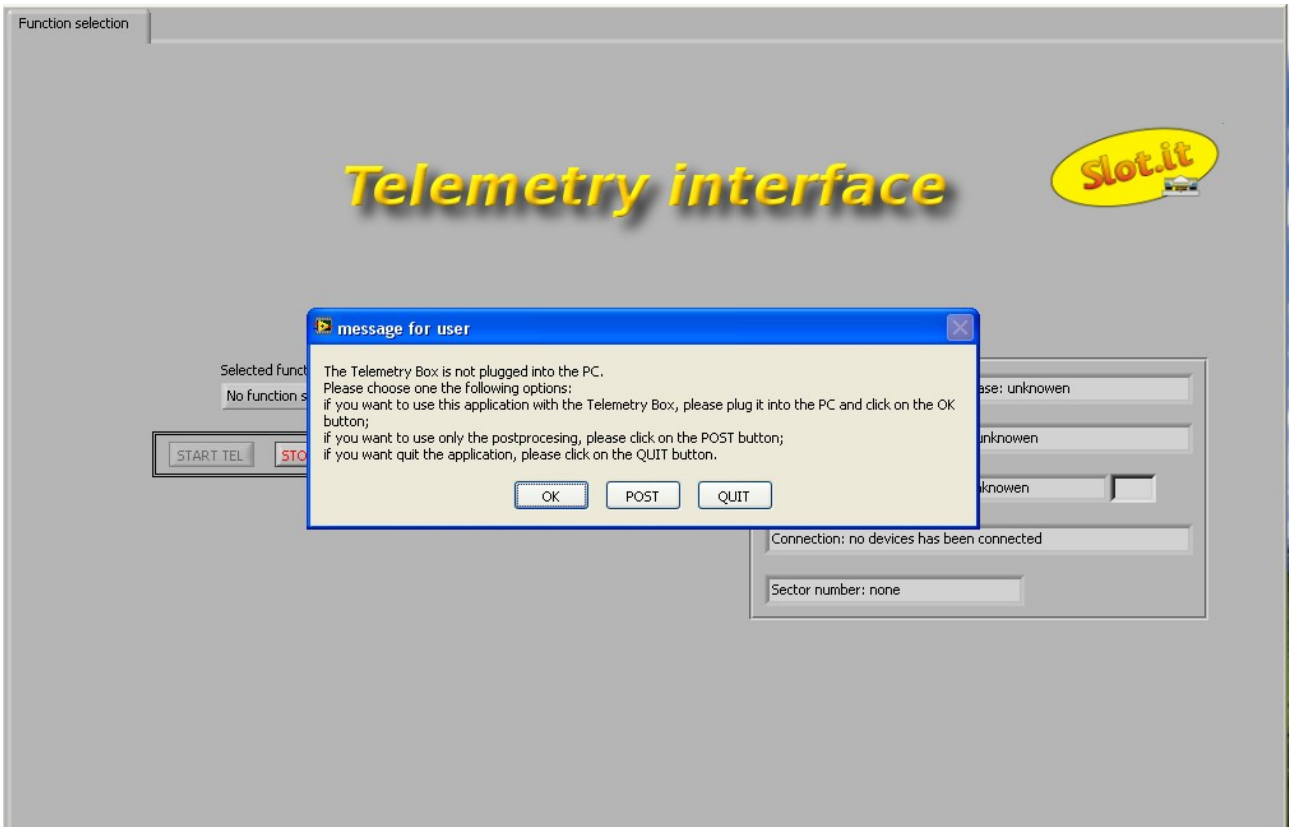
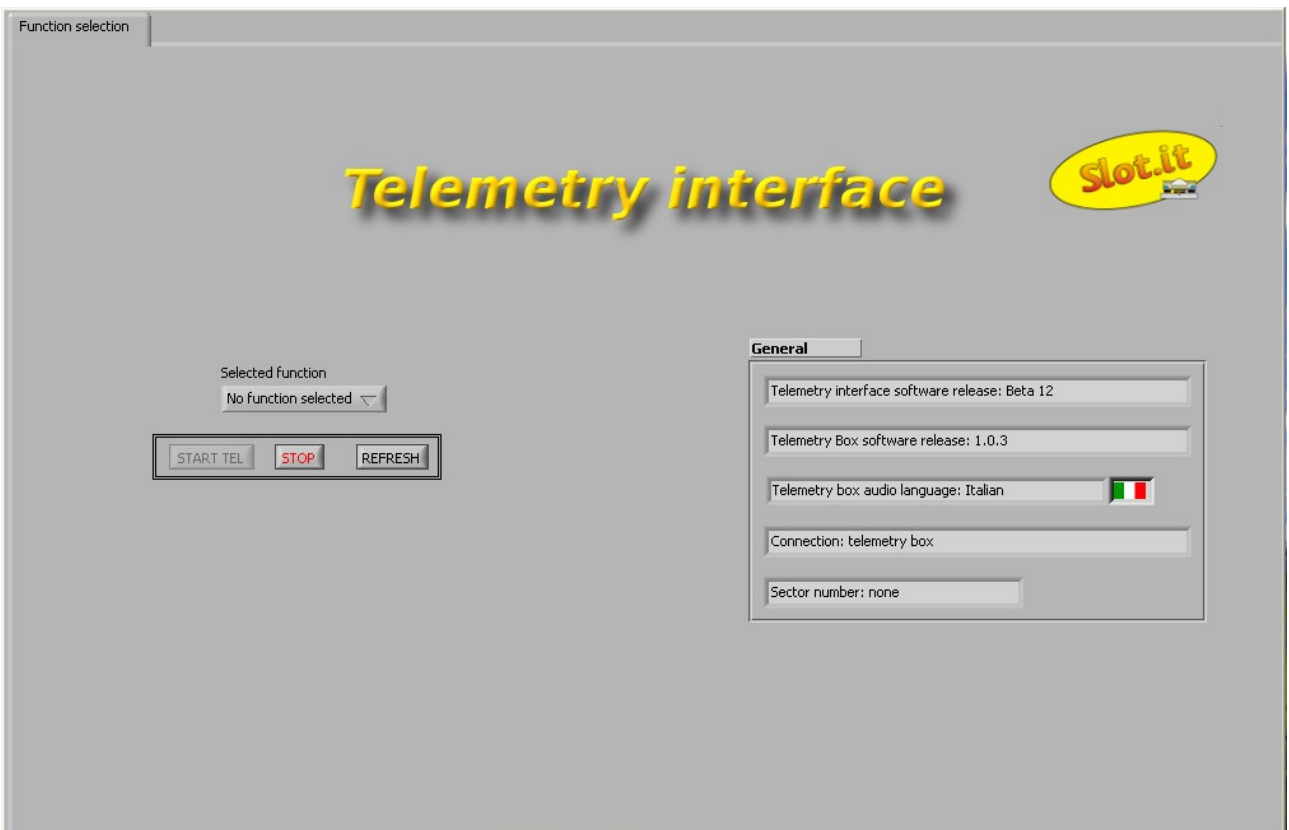

Figure 37: starting windows Telemetry Box PC Interface with disconnected Telemetry Box.
Figure 38: starting windows Telemetry Box PC Interface with connected Telemetry Box.
In order to run the application *Telemetry Box PC Interface* you only have to position the mouse's indicator on the icon of the application itself and make a double click with the left key. The *Telemetry Box PC Interface* can present itself in two different ways according that the *Telemetry Box* is connected or not to the PC. If the *Telemetry Box* is not connected to the PC, the application presents itself as shown in figure 37, otherwise as shown in figure 38.
In case of disconnected *Telemetry Box* (figure 37), the user can carry out one of the following operations, as summarized by the message on the monitor:
- connect the *Telemetry Box* to the PC by means of a USB cable for printer (type AB) and push "OK". This means that the situation is now the one described in figure 38: use of the *Telemetry Box PC Interface* application to communicate with the *Telemetry Box* (see paragraph 16.2.1 );
In case of connected *Telemetry Box* (figure 38), it can be observed that on the right side of the page there is a series of data, the result of a first data exchange between the *Telemetry Box PC Interface* application and the *Telemetry Box*. These are:
- "*no box*": no *Telemetry Box* is connected to the PC (the situation is the one of figure 37);
On the left side of the same page (figure 38) is a drop-down menu, "*Selected function*", in which all the functions that can be carried out are listed, but the enabled ones are only the ones that can be carried out on the basis of what the *Telemetry Box* is connected to in this moment. For example: if the *Telemetry Box* is connected to the PC only, the "*telemetry*" function is not enabled since it requires that the *Telemetry Box* is connected to a SCP controller, too.
- **STOP TELEMETRY**: by pushing this button, the user is asked if he wants to move on directly to the *postprocessing* function. If yes, the *postprocessing* phase begins (for its description, see paragraph ), otherwise the *Telemetry Box PC Interface* application returns to the starting page (figure 38) "*Function selection*", where a message reminds the user that, in order to move on to other operations, it is necessary to select one of them from the "*Selected function*" drop-down menu.
- **STOP POSTPROCESSING:** it provokes the stop of the "Postprocessing" function; the *Telemetry Box PC Interface* application returns to the starting page, "Function selection" (figure 38), where a message reminds the user that, in order to move on to other operations, it is necessary to select one of them from the "Selected function" drop-down menu.